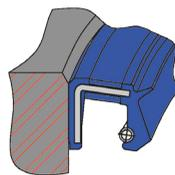

Fig. 1
6. Deformation of seal during installation (Fig 1).	Review installation procedure and use of proper tool.